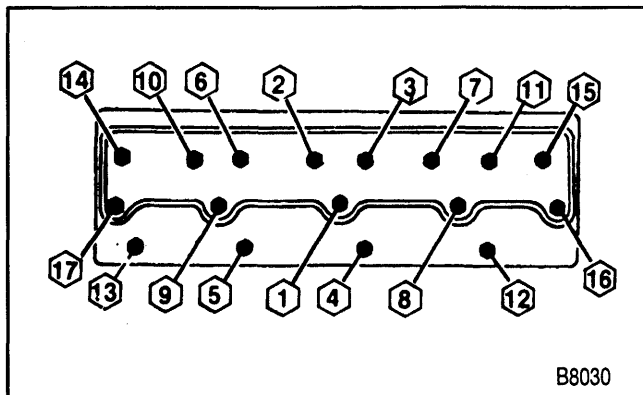

Figure 17—Head Bolt Tightening Sequence
Install or Connect (Figure 17)
- A. Using the sequence shown in figure 17, tighten all bolts to 25 N.m (20 lbs. ft.).